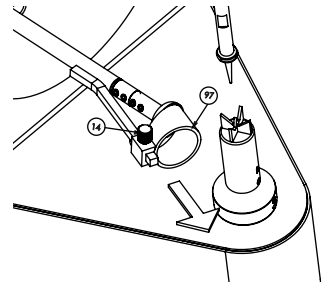

Figure 3
3. Turn the Thickness Bearing Bolt (14) counter-clockwise and loosen it. **(Figure 3)**
4. Pull the SM Thickness (97) in the arrow direction. **(Figure 3)**